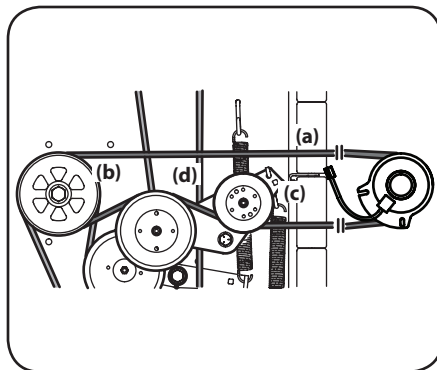

Figure 4-15
1. Remove the PTO belt (a) from the deck as instructed in the Deck Removal section then remove it from around the PTO clutch. See Figure 4-15.
2. Route the PTO belt (a) as shown in Figure 4-15. After routing the belt around the PTO pulley (b), use a 1/2" drive in the idler pulley bracket (c) and turn towards the right of the tractor to finish routing the belt around the idler pulley (d).